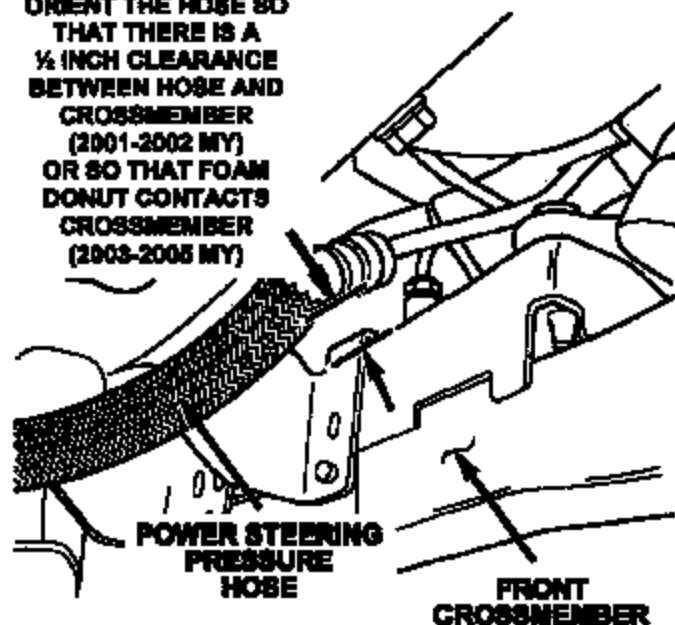

Figure 11
- The hose has  $\frac{1}{2}$ " (12.5 mm) clearance to the front crossmember (2001-2002 model years) (Figure 11).